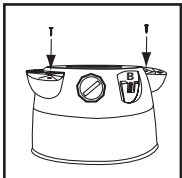

FIGURE 4
3. Secure with screws provided. **FIGURE 4.**